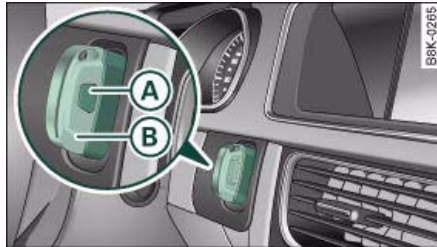

Fig. 35 Ignition lock with key
- Press the release catch (A) ⇒ fig. 35 using a ball-point pen or a similar object and pull the emergency key (B) out of the remote control key.